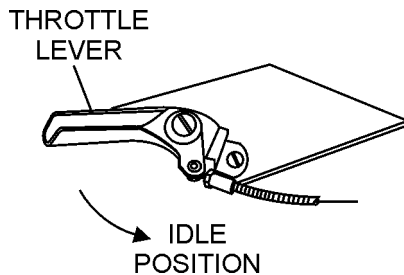

Figure 10. Throttle Lever (Idle Position)
2. Place the trowel's ***throttle lever*** (Figure 10) to the "IDLE" position.